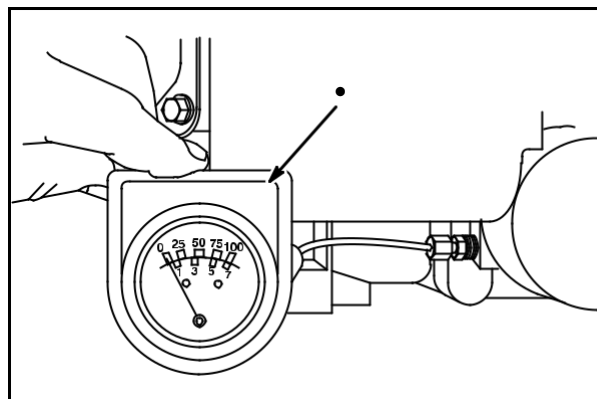

Fig. 49
Install oil pressure gauge (1), **Fig. 49**.